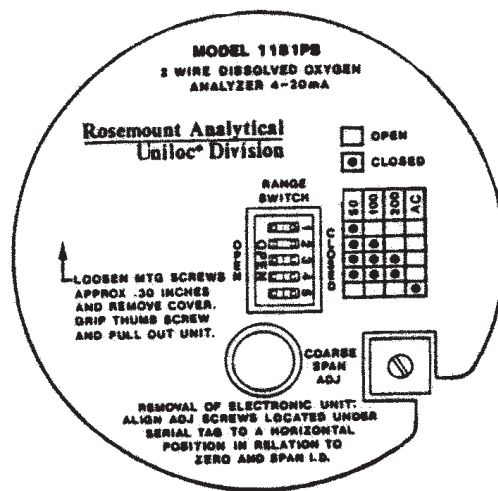

FIGURE 5-1. Matrix Cover-Range Selection
3. Place the RANGE SWITCH in the 50 ppb range position (see Figure 5-1).
3. Set RANGE SWITCH to the AC (Air Calibrate) position (see Figure 5-1).
1. Adjust the COURSE SPAN ADJUST pot (see Figure 5-1) to a reading on the 0-100 ppb scale on the Analog Meter, which equals $\frac{1}{10}$ of the local barometric pressure in millimeters of Mercury (mmHg).
1. Adjust the COURSE SPAN ADJUST POT (see Figure 5-1) to obtain a transmitter output calculated from the local barometric pressure as follows (see note in Section 5.3.1 on converting barometric pressure in inches of mercury (inHg) to millimeters of Mercury (mmHg):